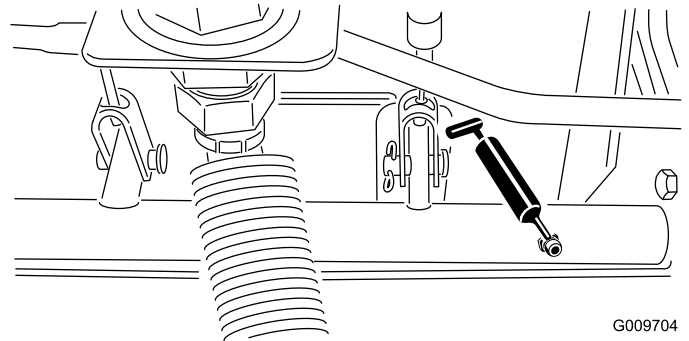

Figure 25
- Brake-shaft pivot bearings (5) (Figure 25)